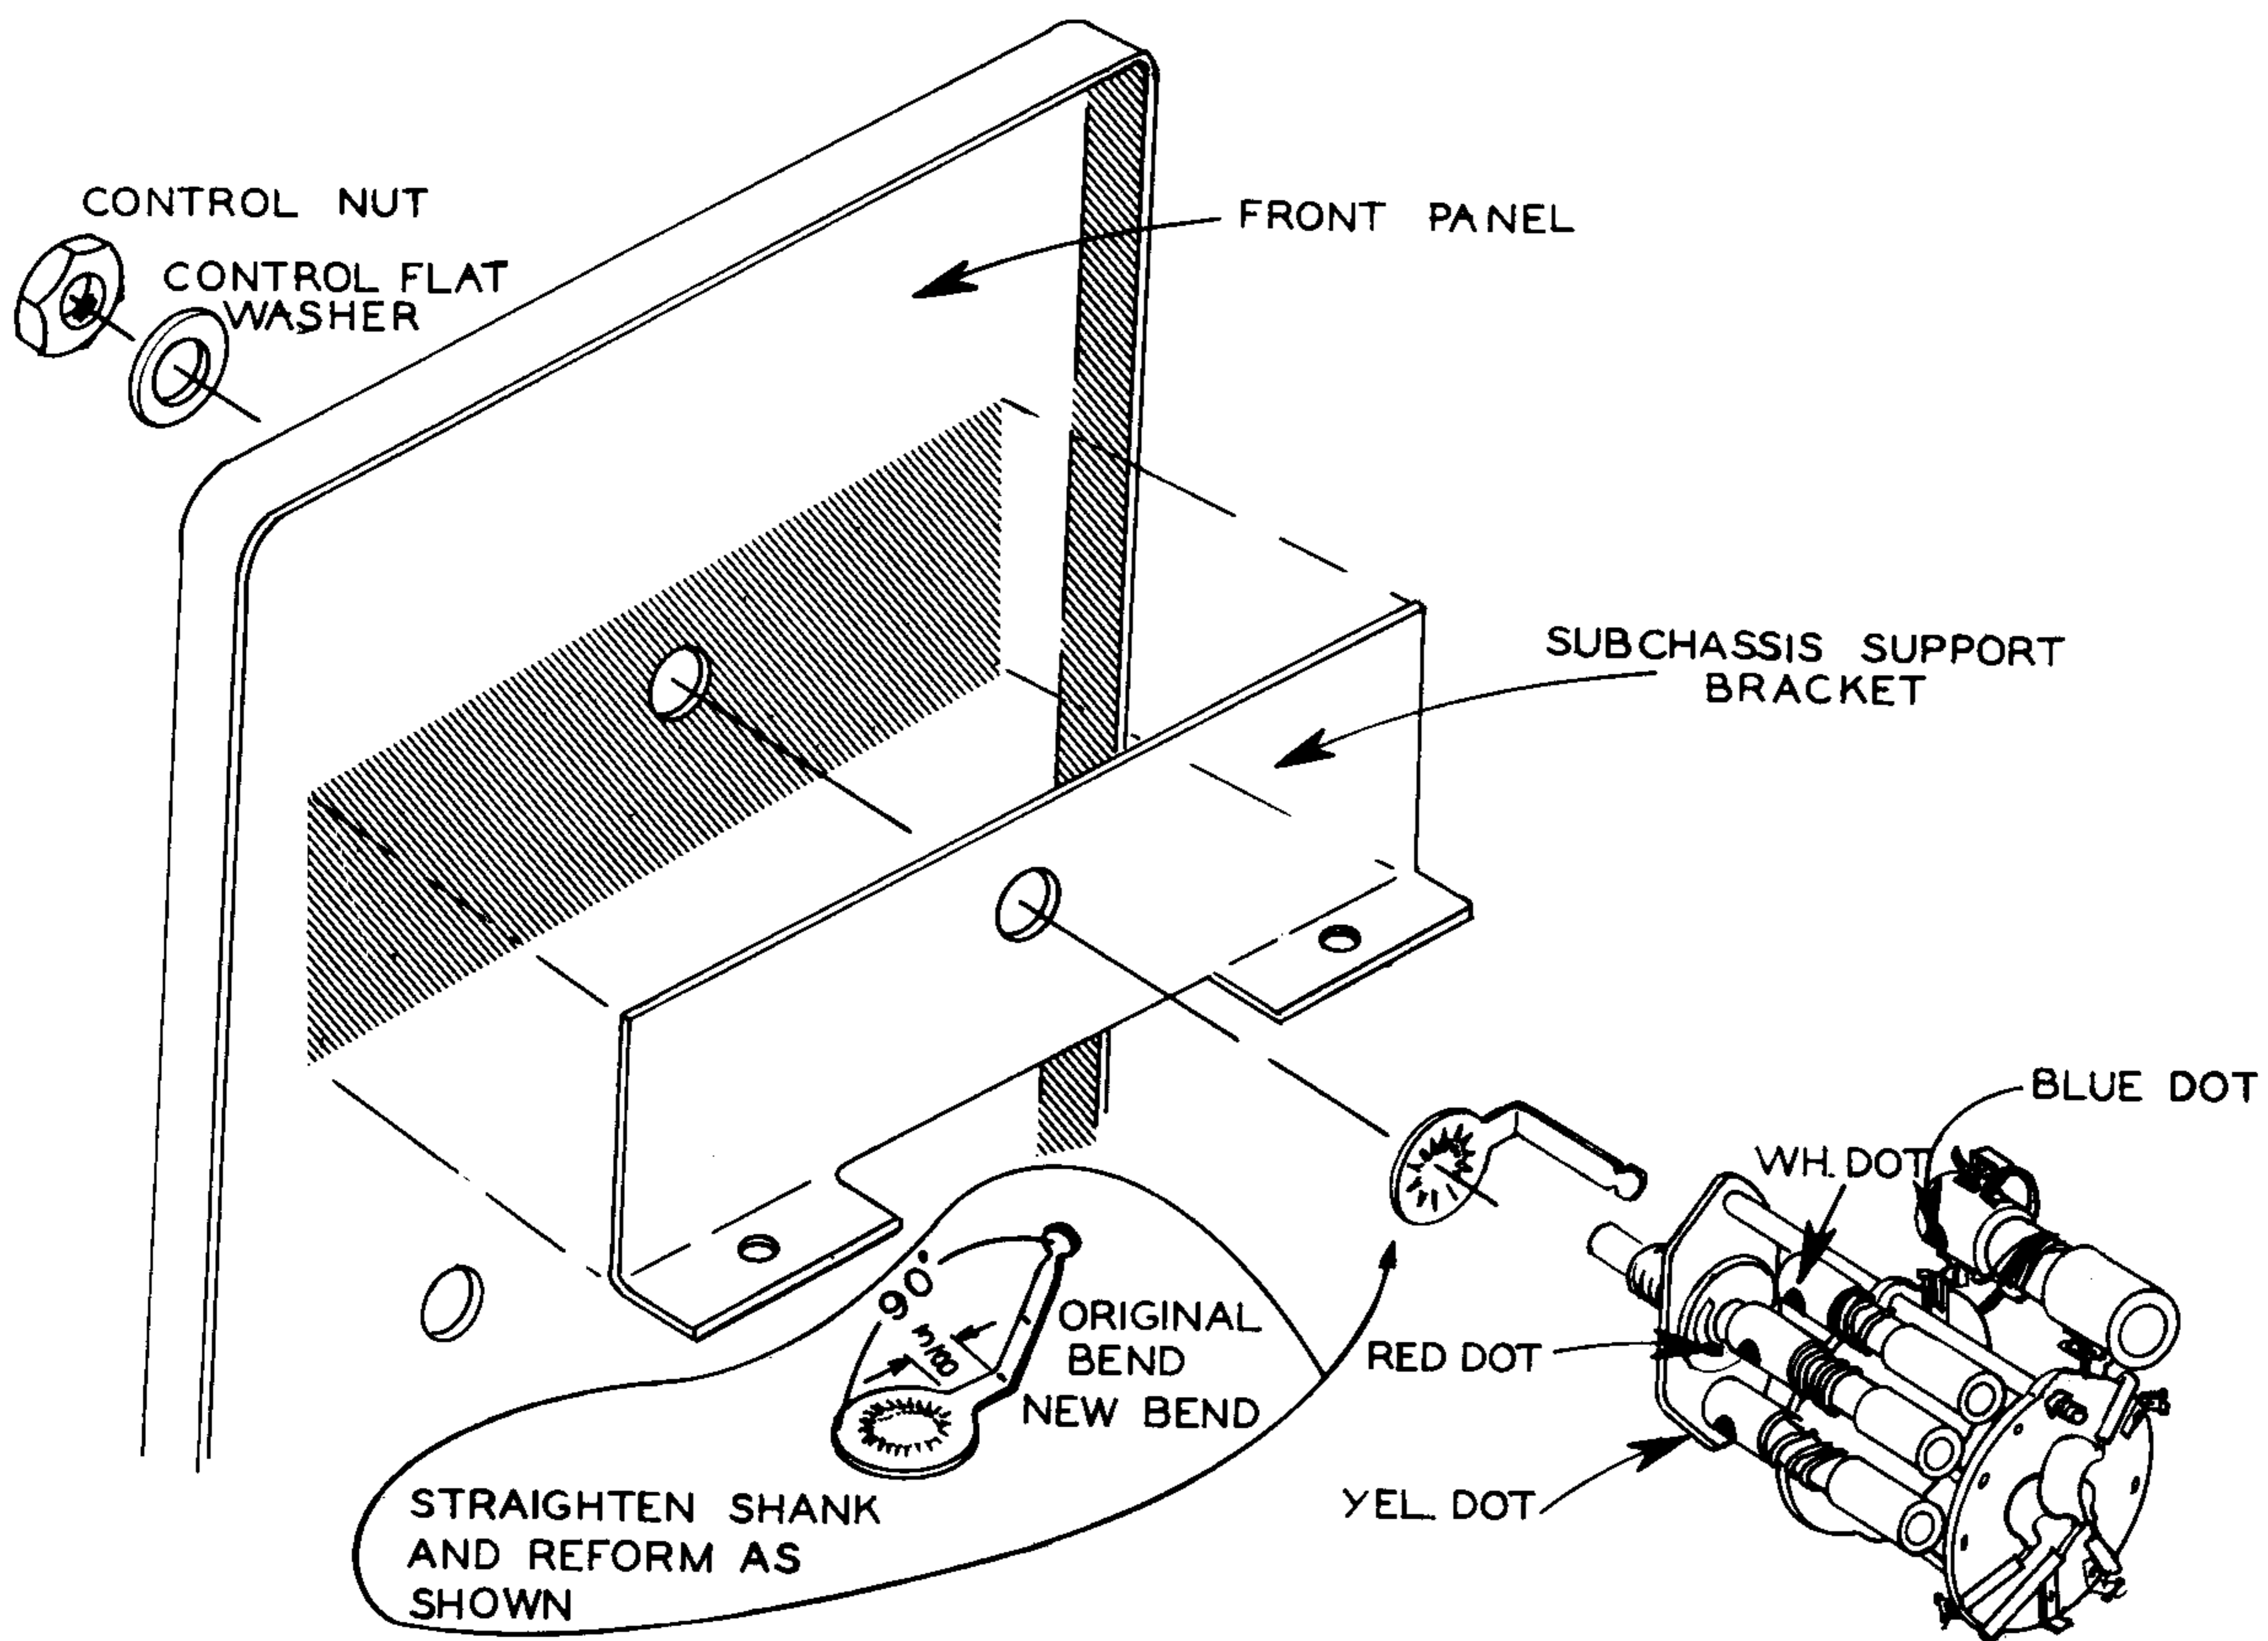

Figure 11
- (✓) Secure the subchassis support bracket to the panel by mounting the Frequency Selector switch, as shown in Figure 11. Use a control solder lug, formed as shown, between the switch and subchassis bracket, and a flat washer between the panel and nut. Orient the switch as indicated, and tighten the nut securely. The end of the solder lug should be adjacent to lug 2 of wafer FD.
- (✓) Wrap the free end of the .005  $\mu$ fd disc capacitor previously connected to lug 6 of wafer FD around the solder lug once (NS), and then on to lug 2 of wafer FD (NS). Now solder the lead to the solder lug (S-1).